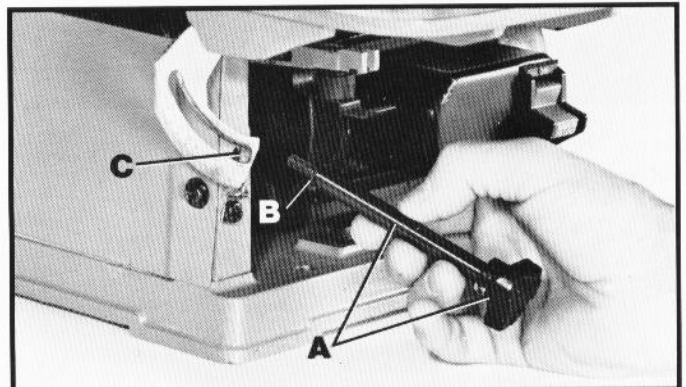
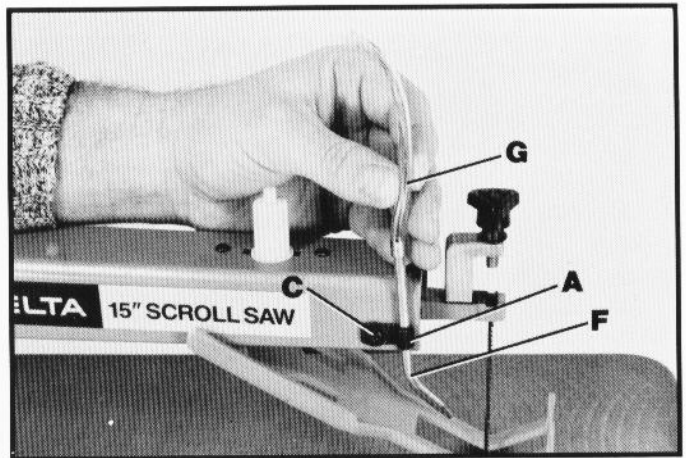

Fig. 4
Fig. 9
Assemble the table lock knob (A), and washer (B) to the hole (C), as shown in Fig. 4. For instructions on tilting and leveling the table refer to the sections **TILTING THE TABLE** and **LEVELING THE TABLE** later on in this manual.
5. Insert brass pipe (F) Fig. 9, of chip blower assembly into bracket (A) and tighten pan head screw (C). Assemble one end of clear chip blower tube (G) Fig. 4, to end of brass pipe (F).